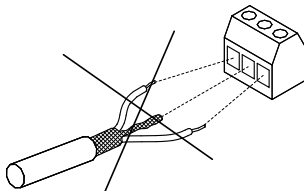

Fig. 21 Do not twist the screen ends
- Avoid terminating the screen by twisting the ends. See fig. 21. Use cable clamps or EMC screwed cable entries instead.